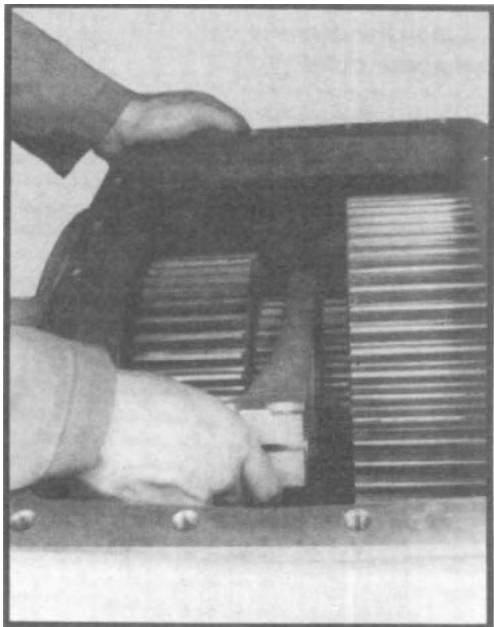

Fig. 191 (old style shown)
2. Position shift fork on clutch gear so that clamping screws will point upwards. (See fig. 191.)
Position shift fork so that flat machined side faces underdrive gear (front). (See fig. 191)